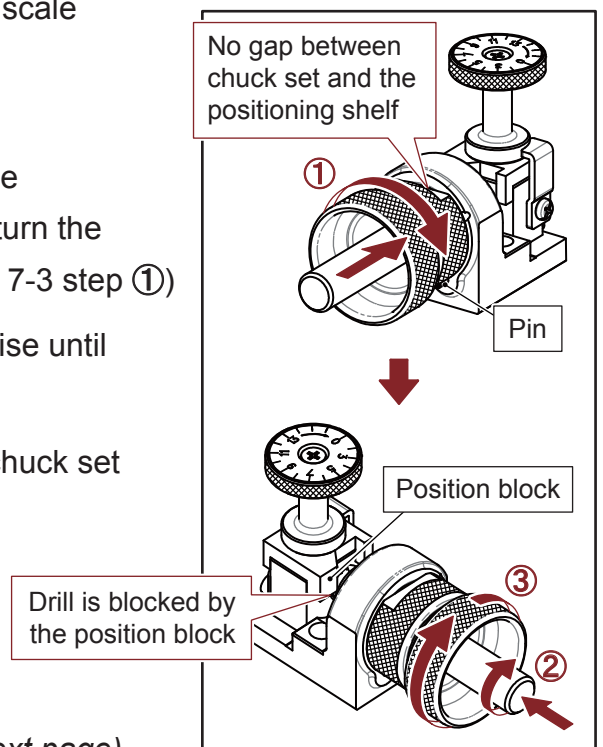

Fig. 7-3
3. Align slot of the clamping nut to the pin on the positioning shelf, then insert the chuck set into the positioning shelf and fit them with no gaps, then turn the chuck set clockwise until it stops by the pin. (Fig. 7-3 step ①)
4. Push the drill to the end and slowly turn it clockwise until it stops by the position block. (Fig. 7-3 step ②)
5. Turn the collet holder clockwise and tighten the chuck set to secure the drill. (Fig. 7-3 step ③)